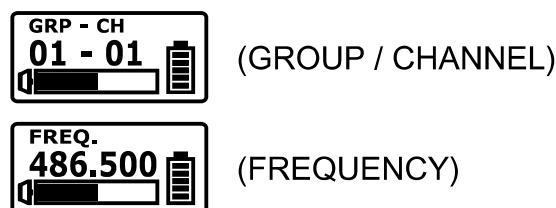

Fig. 9
- (A) Group (GRP) / Channel (CH) / Frequency (FREQ.). Fig. 9:
- (1) Group / Channel / Frequency is synced from the receiver and cannot be changed.
- (2) To change Group / Channel / Frequency, do it at the receiver and then press ACT button to sync.